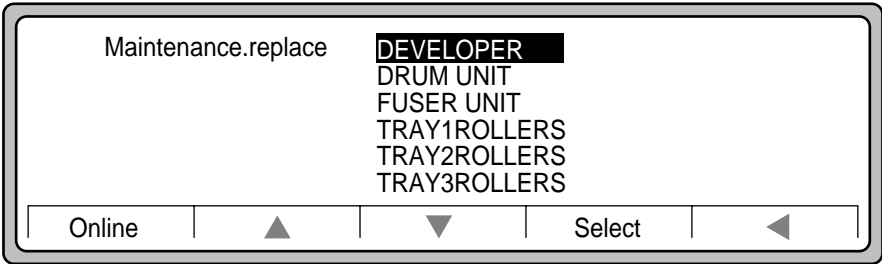

Figure A-4 Maintenance.replace Submenu
4. Select **DEVELOPER** from the Maintenance.replace submenu shown in Figure A-4.